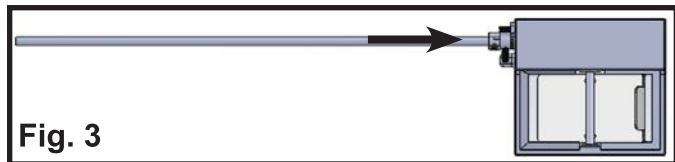

Fig. 3
4. Install supplied thermostat rod extension by aligning machined faces and securing with the set collar. Use supplied allen key. (Fig. 3,4,5)